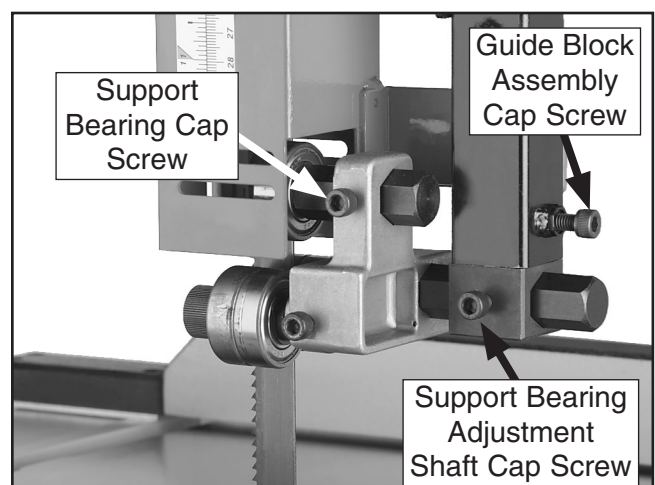

Figure 27. Upper support bearing controls.
3. Familiarize yourself with the upper support bearing controls shown in **Figure 27**.